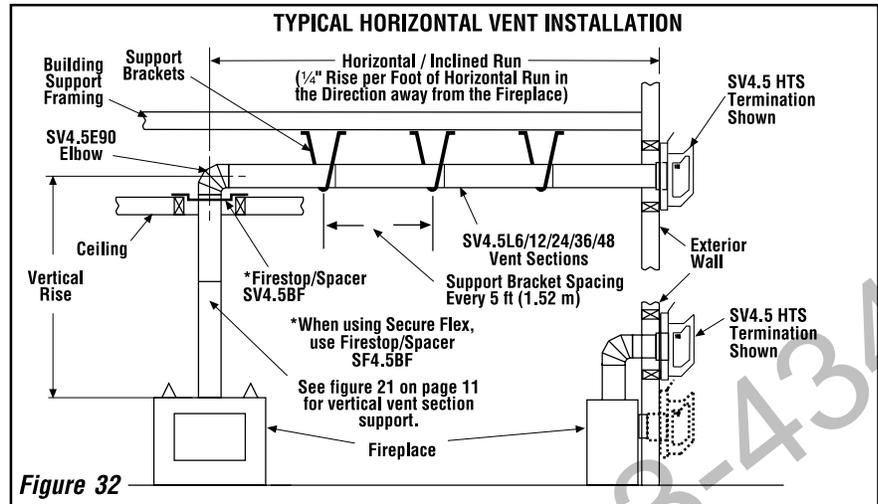

Figure 32
G. Continue installation of horizontal/inclined sections - Continue with the installation of the straight vent sections in horizontal/inclined run as described in **Step C**. Install support straps every 5 ft. (1.52 m) along horizontal/inclined vent runs using conventional plumber's tape. **See page 15, Figure 32.** It is very important that the horizontal/inclined run be maintained in a straight (no dips) and slightly elevated plane in a direction away from the fireplace 1/4" per foot (20 mm per meter) of horizontal vent. Use a carpenter's level to measure from a constant surface and adjust the support straps as necessary.
Figure 32, and Figures 36 to 43 on pages 17, 18 and 19 and their associated Horizontal Vent Table illustrate the various horizontal venting configurations that are possible for use with these appliances. **Secure Vent** pipe applications are shown in these figures; **Secure Flex** pipe may also be used. A Horizontal Vent Table summarizes each system's minimum and maximum vertical and horizontal length values that can be used to design and install the vent components in a variety of applications.
Continue with the installation of the straight vent sections in horizontal/inclined run as described in **Step E**. Install support straps every 5 ft. (1.52 m) along horizontal/inclined vent runs using conventional plumber's tape. See **Figure 32** It is very important that the horizontal/inclined run be maintained in a straight (no dips) and slightly elevated plane in a direction away from the fireplace of 1/4" rise per foot (20 mm per meter) of horizontal vent. Use a carpenter's level to measure from a constant surface and adjust the support straps as necessary.
1. Install the square termination (SV4.5HTS) or (SV4.5HTSS) - For the last step, from outside the exterior wall, slide the collars of the termination onto the adapter (the outer over the outer and the inner inside the inner) until the termination seats against the exterior wall surface to which it will be attached. Orient the housing of the termination with the arrow pointed upwards. Secure the termination to the exterior wall. **The horizontal termination must not be recessed into the exterior wall or siding** by more than the 1/4" (32 mm) as shown in **Figure 32**.